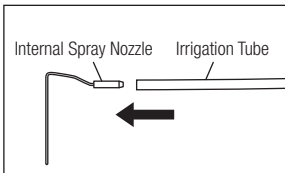

Fig. 7
- 2) Connect the Irrigation Tube to the Internal Spray Nozzle firmly. (Fig.7)